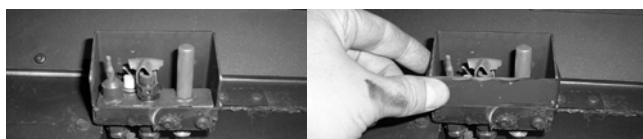

Figure 58: Pilot Shield Extension.
2. Install the pilot shield extension as shown in Figure 58, the burner has been removed for clarity. The shield will fit around the outside of the pilot shield that is installed in the unit.